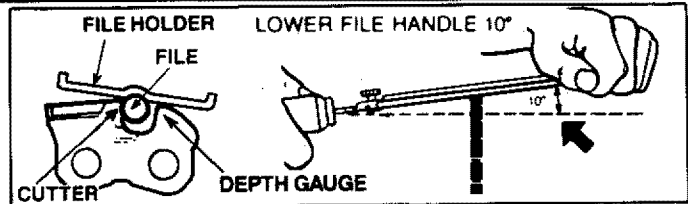

Figure 27
- a.) Position file holder on the top plate of the cutter and depth gauge as shown in Figure 27.
- b.) Hold the file holder level with the 30° guide mark parallel to the center of the chain and lower file handle 10°. Figure 27.